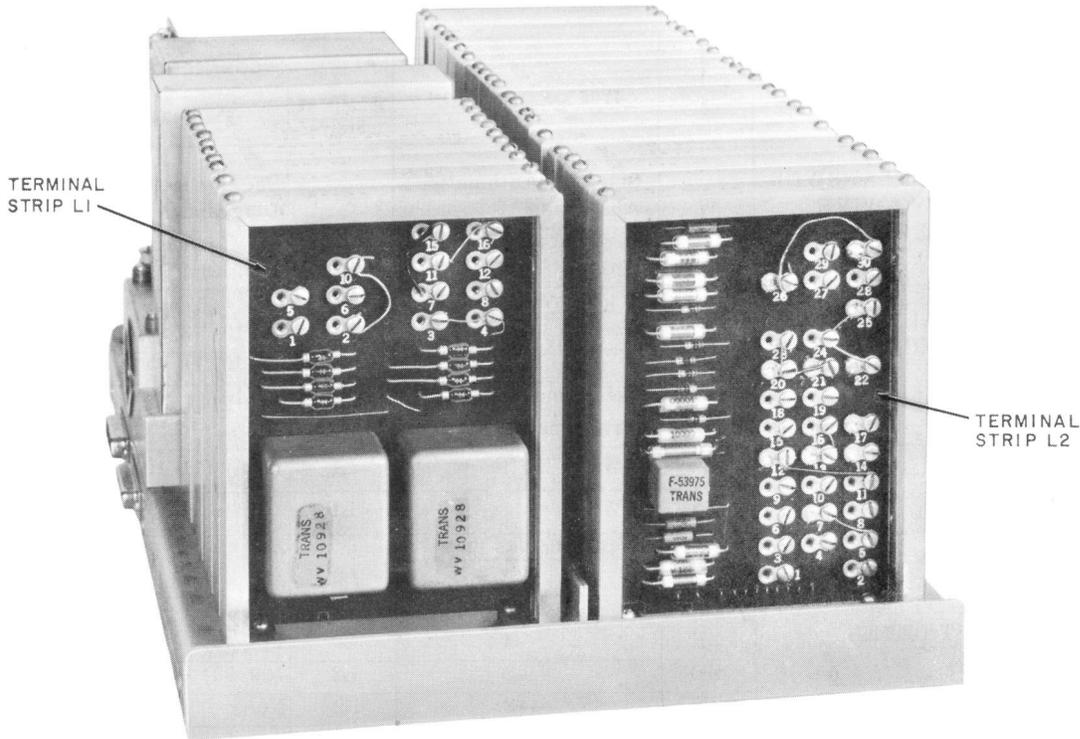

Fig. 1—Data Set 201-Type, Cover Removed
3.02 The type of operation and strapping options shown in Table A must be specified on the service order. Factory-wired options are indicated by asterisks (*). Figure 1 shows the locations of terminal strips L1 and L2 on which options are strapped.